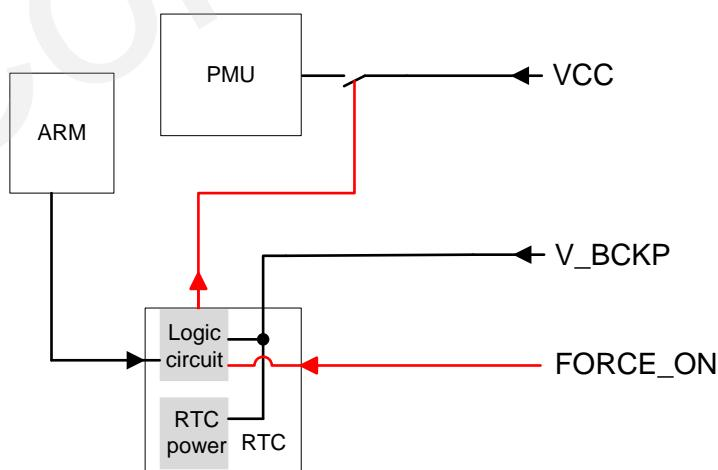

Figure 3: Internal Power Construction
- Sending command: “\$PMTK225,4\*2F” (the red line opens the switch in Figure 3) to enter into backup mode forever. The only way to wake up the module is pulling the FORCE\_ON high (the red line closes the switch in Figure 3).